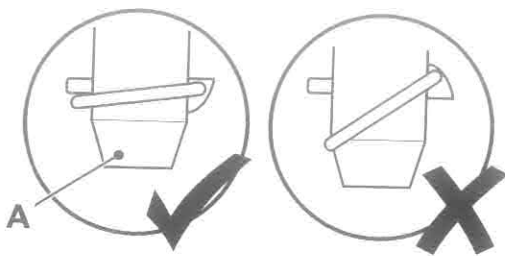

Fig 122.
- d Once the trailer has been engaged, with pin A secured in position, the machine operator must not start the engine until the helper is clear of the machine and trailer. ⇒ **Fig 122.** (□ 113).